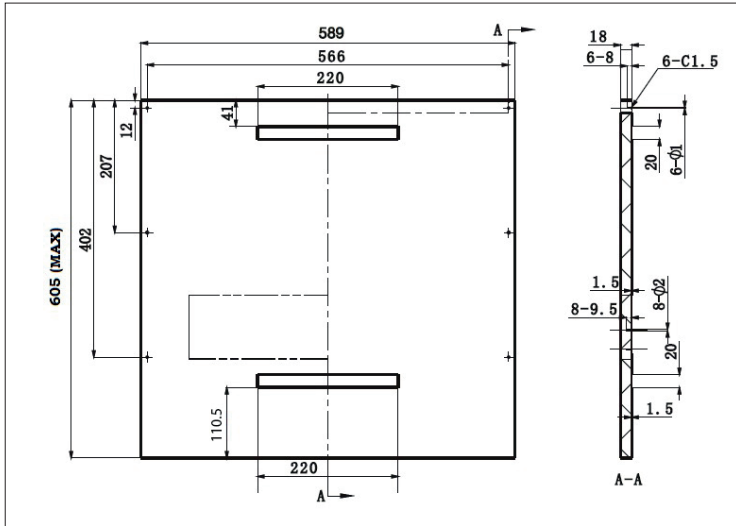

Fig. 14
- The dimensions and location of holes on the cover plate are shown in Fig. 14. The dimensions are given in mm.